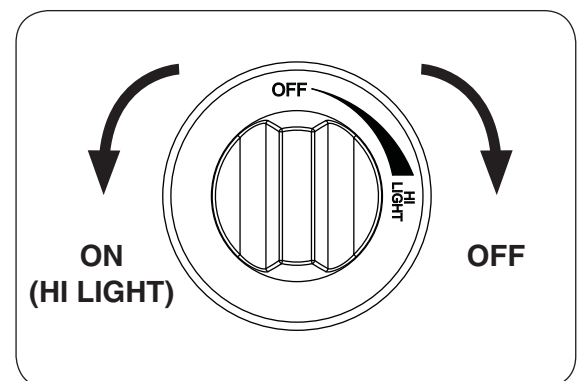

Fig. 21-2
- 4. **Once the match is burning and in position**, depress the gas control knob and turn it counter-clockwise to the **HI LIGHT** position (see Fig. 21-2). Your burner should light.
To extinguish your gas burner, depress the gas control knob and turn it clockwise to the **OFF** position (see Fig. 21-2). Be sure the control knob is turned fully off to avoid any gas leakage.